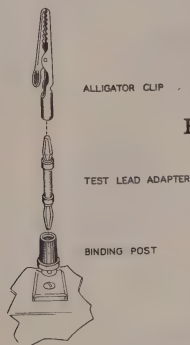

Figure 16
- () Two alligator clips and adapters with banana plugs are provided as test leads. These plug into the terminals of the bridge as shown in Figure 16. The unknown may then be clipped between them.